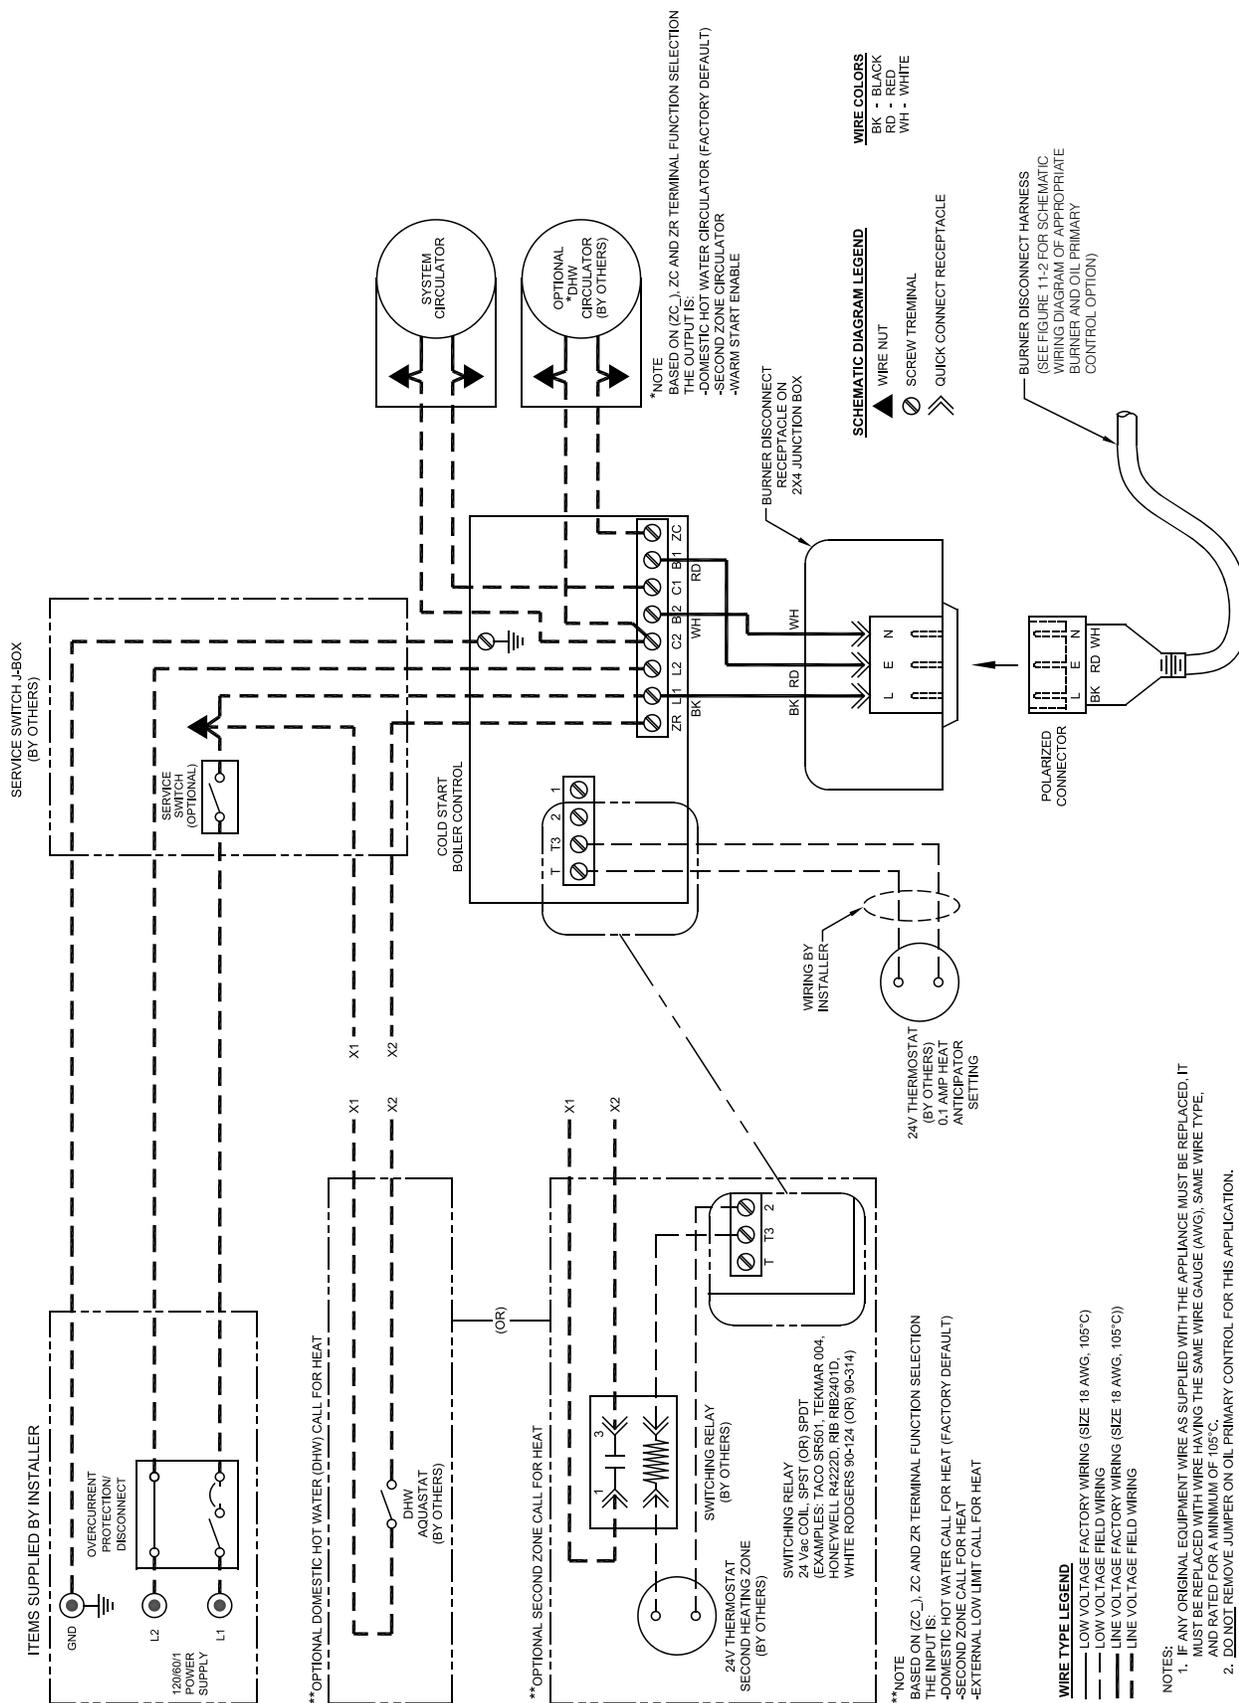

Figure 8-1: Schematic Wiring Diagram, Water Boiler without Tankless Heater, Cold Start Control (All Burner Options)
5. Use armored cable (BX) over all exposed line voltage wiring.
7. Wiring should conform to Figures 8-1 through 8-4.
Heat Anticipator in Thermostat should be set to match the requirements of the control to which it is connected. See Figures 8-1 thru 8-4 for desired system and heat anticipator setting. If system tends to overheat above the thermostat's temperature setting, reduce heat anticipator settings by .1 or .2 amps. If system tends to short cycle without reaching desired room temperature, increase heat anticipator setting by .1 or .2 amps.